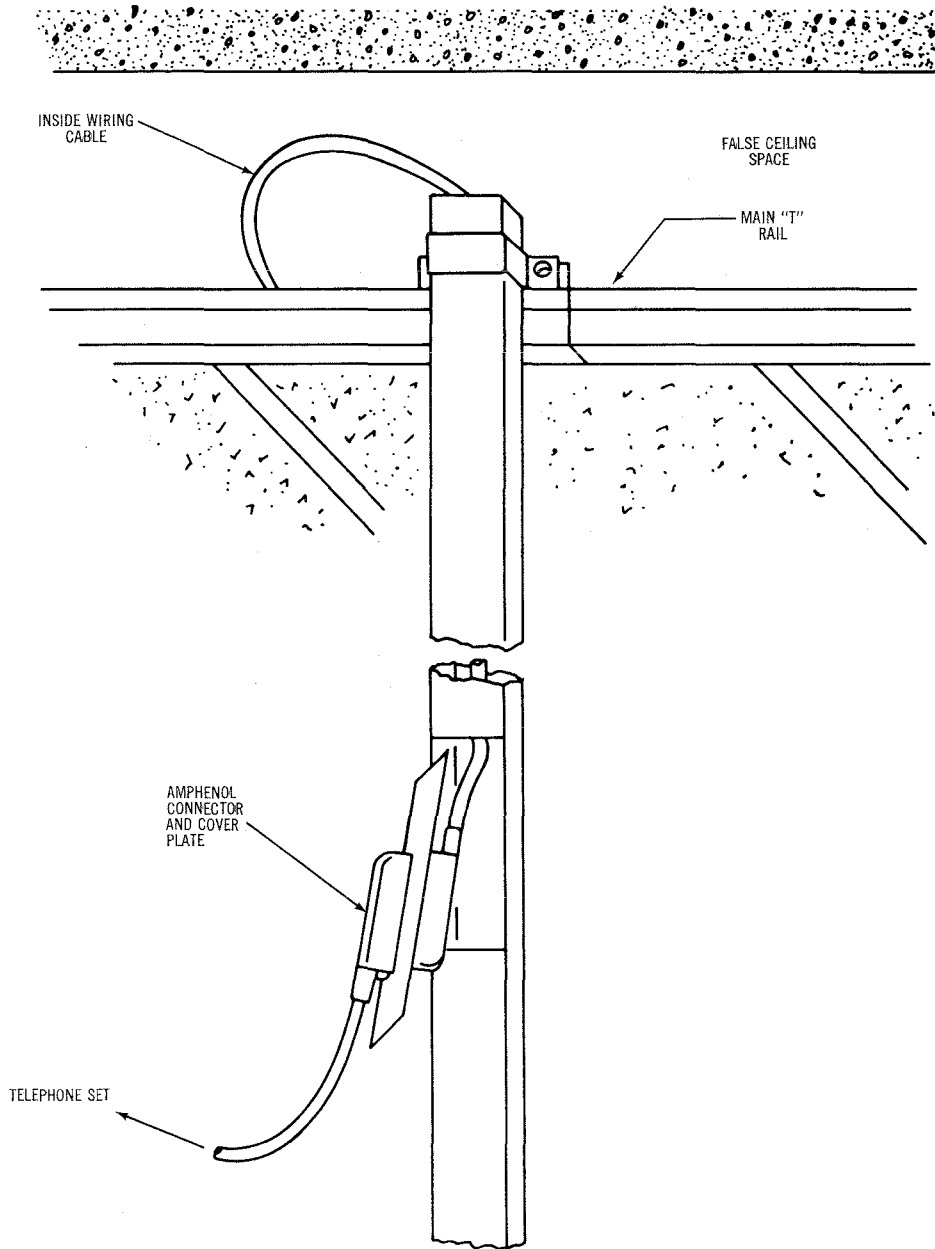

Fig. 14 – Utility Column Installation
**11.04** The utility columns should be attached, or supported, by the main "T" rails in the ceiling as shown in Fig. 14.